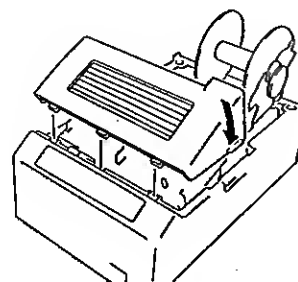

Fig. 2
2. Attaching the ribbon cover (Fig. 2)